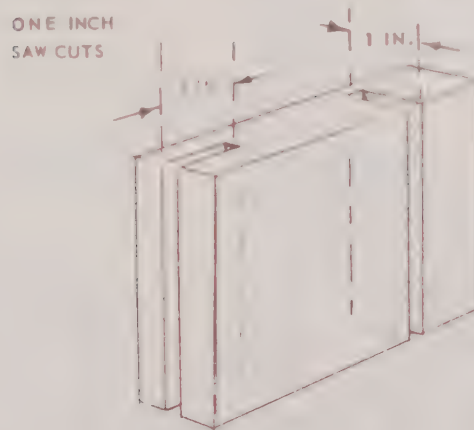

Figure 3-31 Aluminum Block
- (6) Test block with saw cuts. (Figure 3-31)